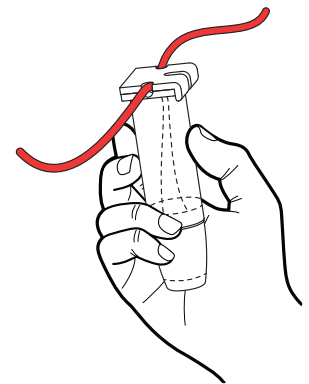

Figure 12d
- e. Close the cap (see Fig. 12d).